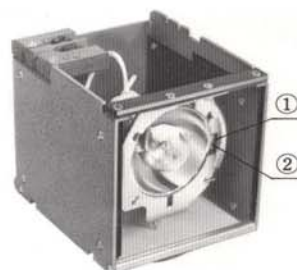

Fig. 2
④ Installing the lamp
- b) Aligning the locating groove ① of the lamp socket with the locating pin ② of the lamp, insert the lamp into the pressure spring, and pressing down the lamp, keep it in contact with the lamp socket. (Fig. 2)